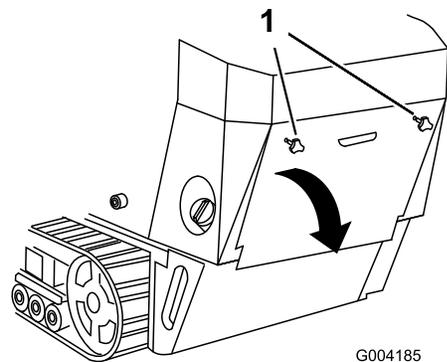

Figure 22
1. Unscrew the 2 hand knobs securing the rear access cover to the machine (Figure 22).
2. Tilt the rear access cover down and remove to access the internal components (Figure 22).